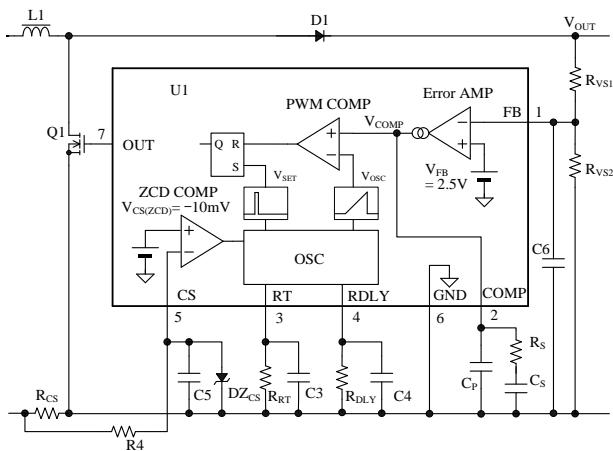

Figure 9-1 The IC peripheral circuit.
Figure 9-1 shows the IC peripheral circuit.
R_{RDLY} shown in Figure 9-1 is for the adjustment of the turn-on delay time, t_{RDLY} , of the Power MOSFET. As shown in Section 8.5 Zero Current Detection, adjust the value of R_{RDLY} and turn-on timing to the bottom point of V_{DS} free oscillation waveform on actual operation in the application. The range of R_{RDLY} is 15 k Ω to 56 k Ω .
R_{CS} shown in Figure 9-1 is current sensing resistor. R_{CS} is calculated by the following Equation (7), where Overcurrent Protection Threshold Voltage $V_{CS(OCP)}$ is -0.60 V and I_{LP} is calculated by Equation (1).